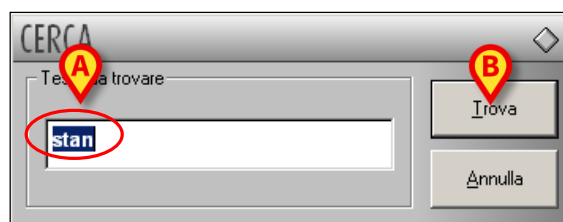

Fig 86
- Type the text that you need to find in the search field (Fig 86 A).
- Click the **Find** button (Fig 86 B).